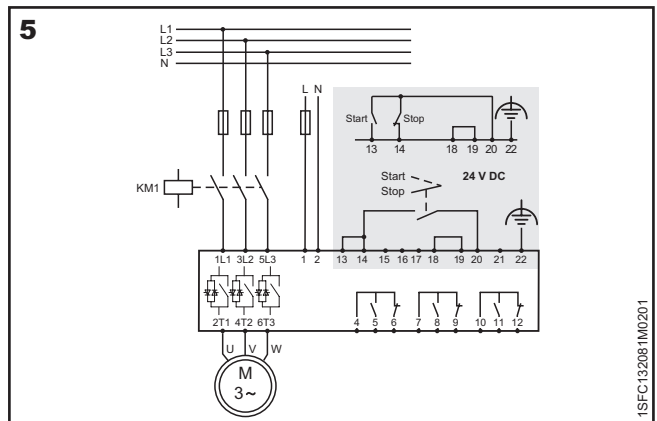

Figure 5: Circuit diagram PSTX30...PSTX370 (Fuse and contactor version)
6. Look at the diagram, see **Figure 5**, and connect the start/stop circuits: terminal 13, 14, 18, 19 and 20/21, with the internal 24V DC terminal. When using internal 24 V DC (terminals 20 or 21), the terminals 18 and 19 should be connected to each other. For external control circuit voltage, see **chapter 5.1.2.3 Start and Stop - terminals 13, 14, 18, 19, 20, 21**.